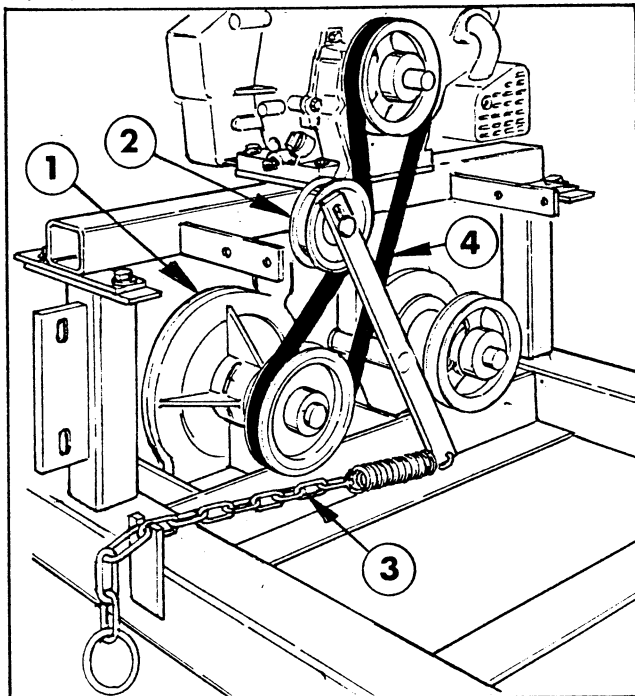

Figure 6
1. Install the Drive Belt on the Engine and Pump Pulleys as shown in Fig. 6. The Centrifugal Pump is used for high volume spraying, i.e. Boom spraying.
2. Pull the Idler Engagement Chain to bring the Idler Pulley into contact with the Drive Belt. At the point of resistance by the Drive Belt, pull the Chain the distance of another two links and insert that link into the lug on the Skid Frame. See Fig. 6.